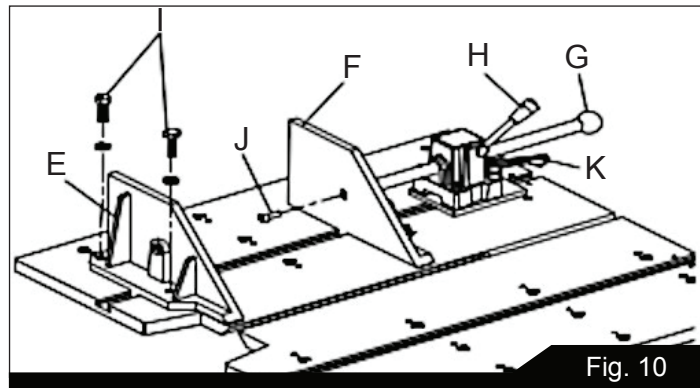

Fig. 10
Reference Figures 10 and 11.
1. Place the rear vise plate in the T-slot and at a position on the table so that the hold down bolts (I) are aligned with the threaded mounting holes in the tabletop.
2. Use a hex key to secure the rear vise plate to the tabletop with the hold down bolts (I).
4. Place the quick clamp assembly into the T-slot aligned with the front vise plate with the flat threaded end against the vise plate and the ball knob (G) outward for the operator. This assembly may be positioned as needed to allow for clamping and releasing the vise plate.
5. Insert the M8 x25 socket head screw (J) through the plate and into the slide bar for the quick clamp.
6. The lock handle (K, Fig. 10) secures the clamp assembly to the table T-slot.
7. Pulling the release handle (H, Fig. 10) unlocks the slide bar, allowing the front plate to be moved to clamp or unclamp the material. Pushing the release handle forward presses the slide bar forward slightly, locking the slide bar.